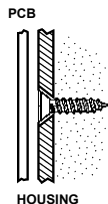

Figure 2: Mounting Screw Position
7. Mount the back cover using two screws and replace the PCB. Use ISO 7050 (ST3.5 x 22) or similar countersunk screws so that the screw head will not touch the PCB – see Figure 2.